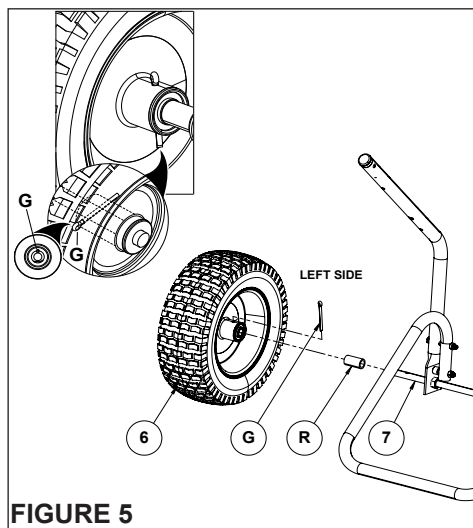

FIGURE 5
STEP 5: (SEE FIGURE 5)
- Slide the spacer (R) and the wheel assembly (6) on to the axle (7).
- Secure the wheel assembly with cotter pin (G) as shown in Figure 5.
- Spread the ends on the cotter pin (G).